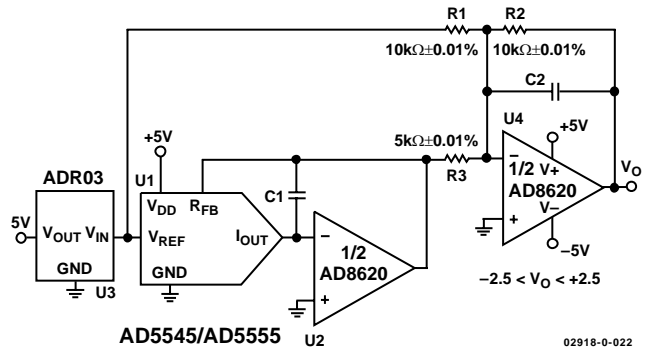

Figure 22. Four-Quadrant Multiplying Application Circuit
In some applications, it may be necessary to generate the full 4-quadrant multiplying capability or a bipolar output swing. This is easily accomplished by using an additional external amplifier, U₄, configured as a summing amplifier (see Figure 22). In this circuit, the second amplifier, U₄, provides a gain of 2, which increases the output span magnitude to 5 V. Biasing the external amplifier with a 2.5 V offset from the reference voltage results in a full 4-quadrant multiplying circuit. The transfer equation of this circuit shows that both negative and positive output voltages are created because the input data (D) is incremented from code zero (V_{OUT} = -2.5 V) to midscale (V_{OUT} = 0 V) to full scale (V_{OUT} = +2.5 V).